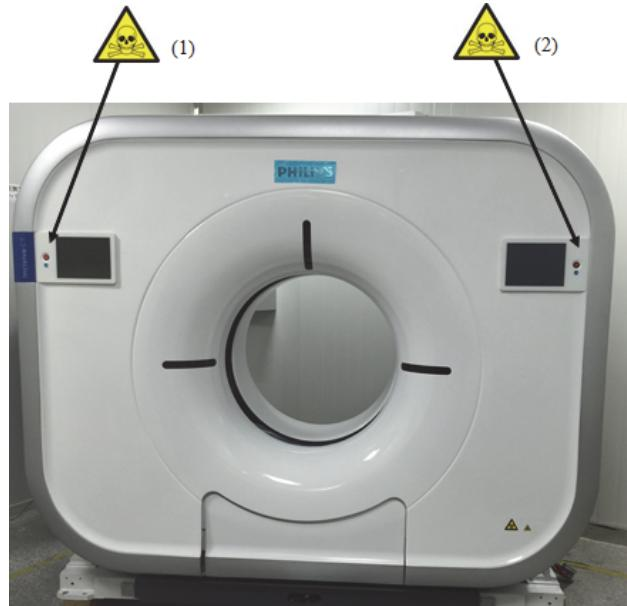

Figure 1: Front View of Gantry with Cover on
Printed circuit boards	Figure 1 (1) (2), Figure2 (4) , Figure2 (5), Figure2 (6), Figure3(1),Figure4 (1), Figure5 (2), Figure6 (3), Figure7 (3), Figure8 (1),